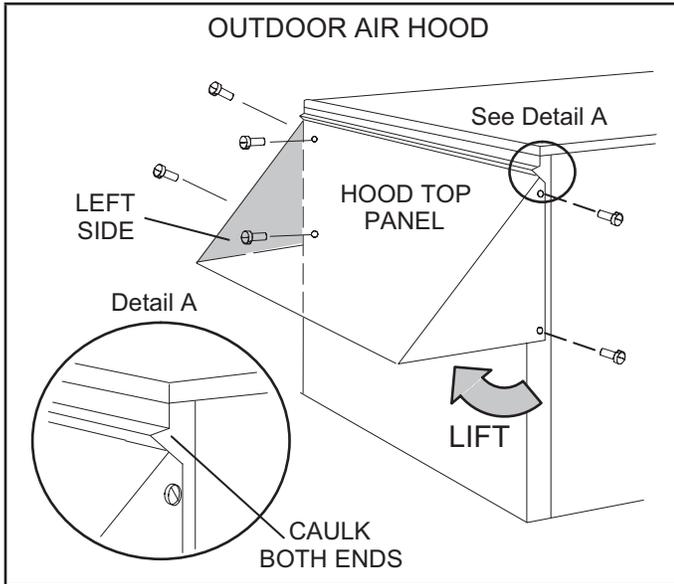

FIGURE 8
- 3 - Lift (rotate) the bottom of the hood top panel and attach left side to hood top panel. See FIGURE 8.